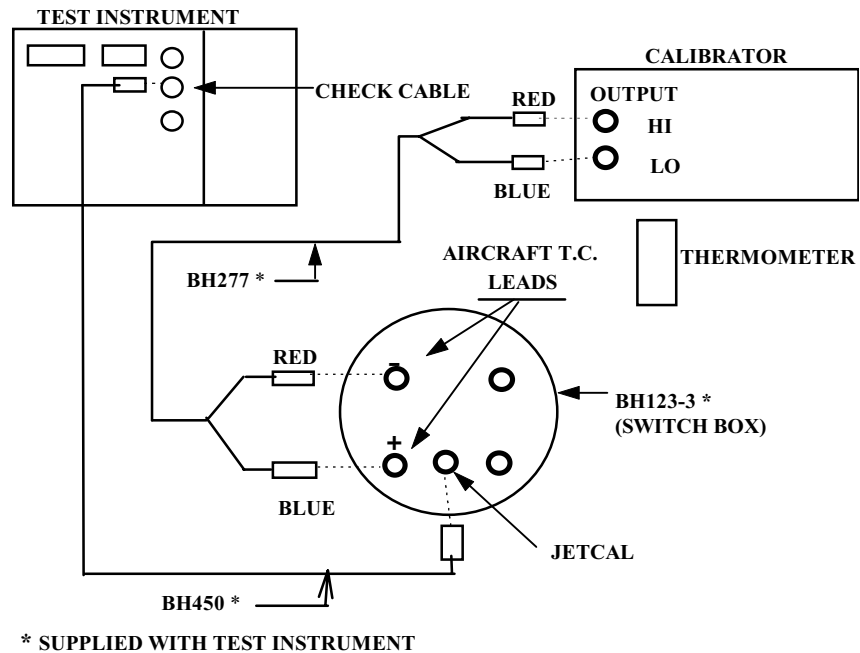

Figure 2. Temperature indicator check.
- (1) Connect equipment as shown in figure 2.
(4) Refer to table 3 and adjust calibrator for an mV dc output equal to millivolt value corresponding to ambient temperature recorded in (3) above.
(5) If **TEMP °C** indicator does not indicate **0**, perform **b** (1) through (4) below.
(6) Reverse leads at calibrator OUTPUT (BLUE to HI and RED to LO) (fig. 2).
(7) Adjust calibrator for an 8.13 mV dc output, less millivolt value equivalent to ambient temperature obtained in table 3.
(8) If **TEMP °C** indicator does not indicate between 198 and 202, perform **b** (5) through (7) below.
(9) Repeat (7) above for calibrator outputs, less ambient temperature equivalent in millivolts, listed in table 4. If out-of-tolerance condition exists, perform **b** (5) through (7) below.